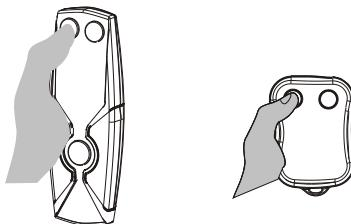

Figure 3-5
4. Use the wired hand control or optional wireless key-fob controller, to raise and retract the platform into the stowed/travel position. *See Figure 3-5.*